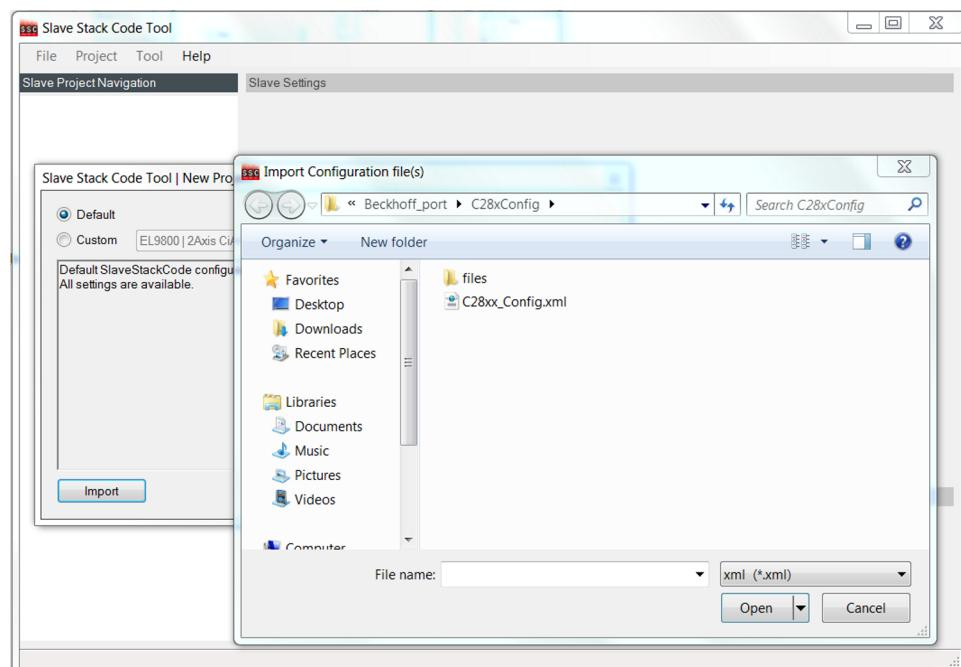

Figure 9. Import Configuration
- Click Import, point to the C28xx_Config.xml, and then select Open (see Figure 9).